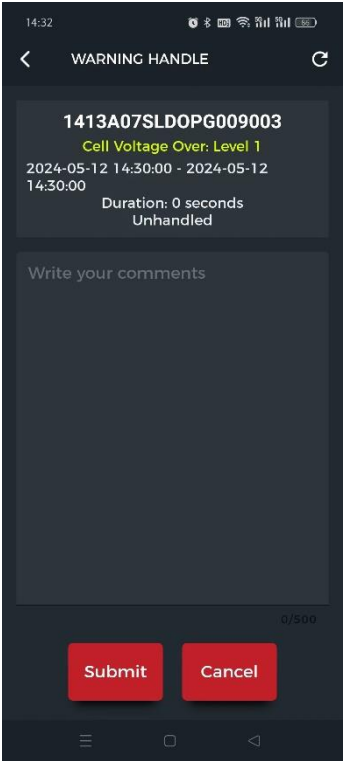

Figure 38: Alarm in processing
(2) After selecting "show only unprocessed", only all unprocessed alarms will be displayed in the list.
(3) Click the "unprocessed" alarm information to enter the alarm information Processing page in FIG. 38.